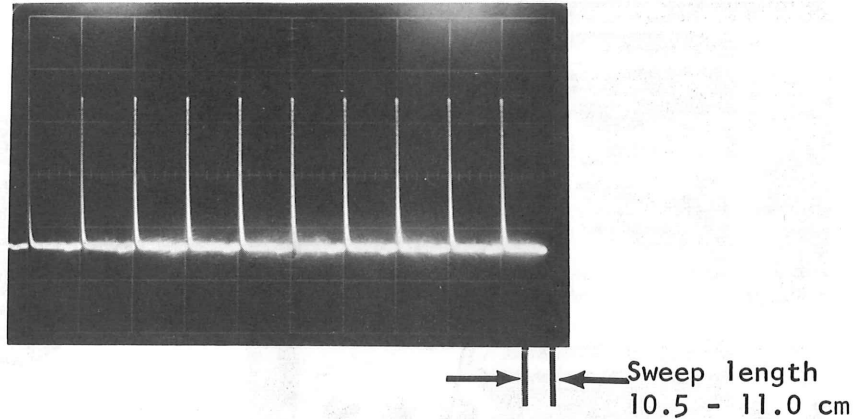

Figure 20
1. While displaying 1 msec markers (TIME/CM set to 1 msec), position the display to the left of the CRT screen and check that the sweeps terminates between 10.5 - 11.0 cm. See Figure 20.